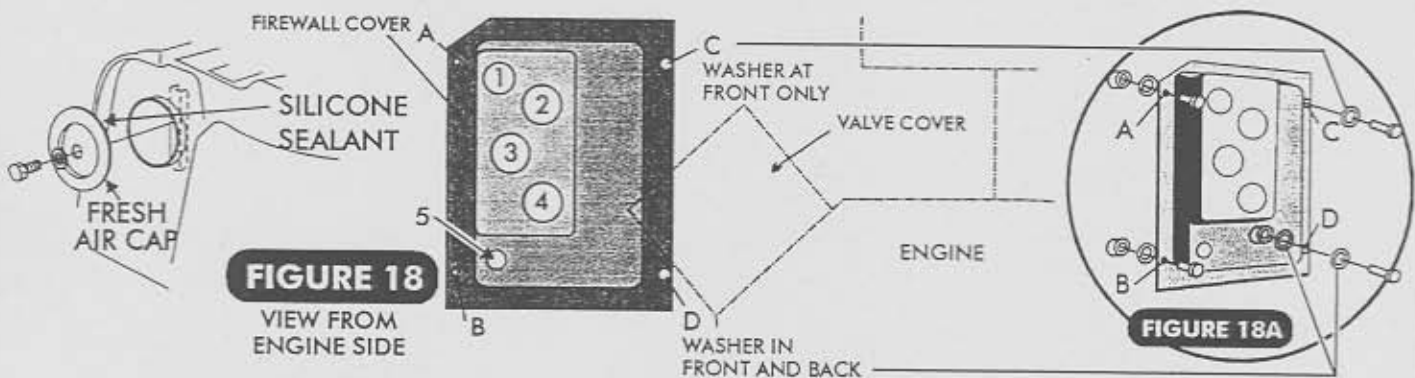

FIGURE 18
- ATTACH FRESH AIR CAP TO FIREWALL WITH 1/4" x 1" BOLT & 1/4" BEAD OF SILICONE. (SEE FIGURE 18).
- HOLD THE FIREWALL COVER IN PLACE AND REINSTALL FASTENERS "A", "B" & "D" AS DURING "TRIAL FIT". SEE FIGURE 18, PG.9.
- ROUTE THE TWO HEATER HOSES (NOT SUPPLIED) THROUGH HOLES #3 & #4 IN THE FIREWALL COVER AND ATTACH TO EVAPORATOR. SEE FIGURE 18, PG. 9. LUBRICATE HOSES & GROMMETS FOR EASE OF INSTALLATION.
- WITH AN ASSISTANT, AIM THE PRE ALIGNED #6 ALUMINUM HARDLINE THROUGH THE #1 HOLE IN THE FIREWALL COVER. SEE FIGURE 18, PG.9. PINCH THE GROMMET (ON THE HARDLINE) AND PASS IT THROUGH THE HOLE IN THE FIREWALL COVER TO THE ENGINE SIDE. AS THE EVAPORATOR APPROACHES THE CORRECT MOUNTING POSITION; AIM THE #6 HARDLINE ON THE EVAPORATOR AT THE #6 ALUMINUM HARDLINE ON THE PASSENGER SIDE INNER FENDER PANEL. SEE FIGURE 12, PG. 4a. LUBRICATE THE O'RINGS AND FITTINGS ON THE #6 HARDLINES & CONNECT (FINGER TIGHT).
- ROUTE HEATER HOSES (FROM HOLES "3" & "4" OF THE FIREWALL COVER). SEE FIGURE 18, PG. 9.